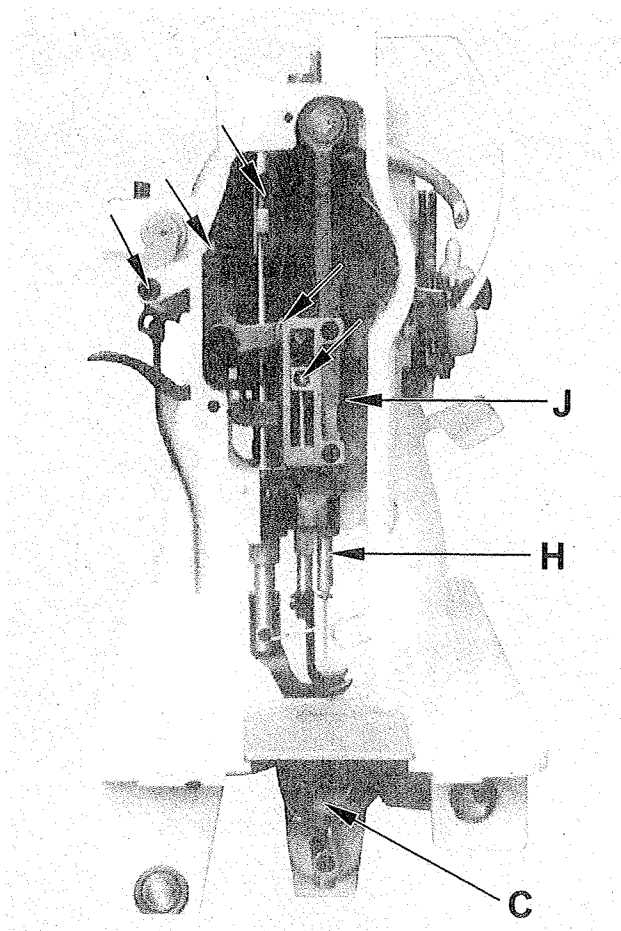
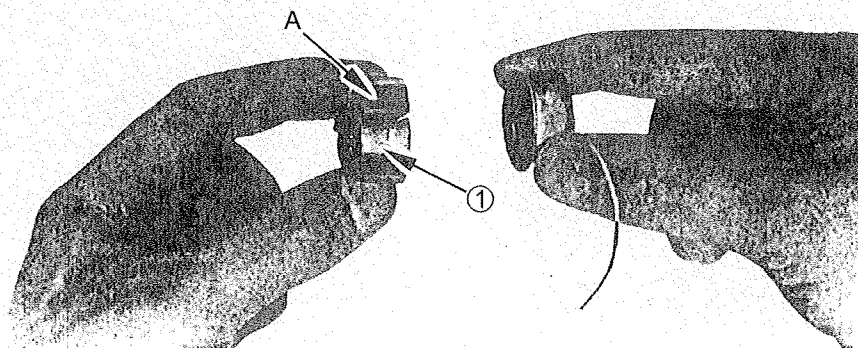

Fig. 4
Fig. 9
2. Pass left hand under table into opening on drip pan. With left thumb and index finger, open the hinged latch (C, Fig.4). And pull bobbin case and bobbin from rotary hook. While the latch is held open, the bobbin will be retained in the bobbin case. Release of the latch and turning of the open side of the bobbin case downward will cause the bobbin to drop out.
3. Hold the bobbin between the thumb and the forefinger of your right hand and pull out a length of about 5cm of thread. Holding the bobbin case in your left hand turn the open side up and place the threaded bobbin into it. (Fig.9)
4. With the right hand guide the thread into the slot in the edge of the bobbin case. Then pull the thread to the left, under the tension spring (①, Fig.9) and into the delivery eye. In order to keep the bobbin from dropping out of the case when it is turned with the open side down, always keep the hinged latch (C, Fig.4) at the front of the bobbin case open.
5. Take the threaded bobbin case by the latch (C, Fig.4) and place it on the center stud of the bobbin case holder. Release latch and press bobbin case on to center stud until the latch catches the undercut thereon with a click that can be heard. Permit about 5cm of bobbin thread to hang down freely. Be sure to push the slide plate to the right before starting to sew.
2. Tension of the Lower (Bobbin) thread: (Fig. 9)
The lower (bobbin) thread tension is controlled by the larger screw "A" (Fig. 9) near the end of the spring at the outside of the bobbin case.